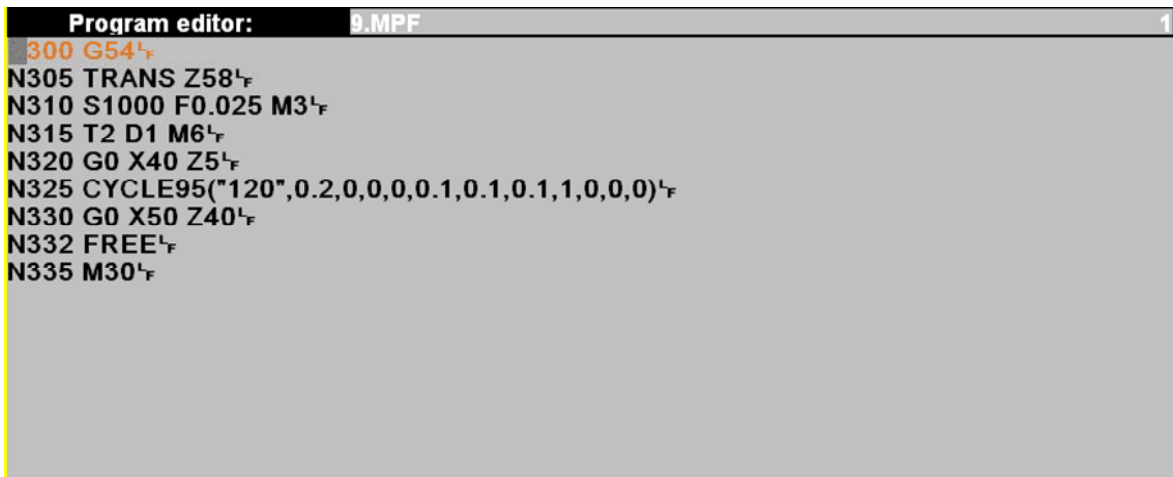

Fig.6.21: Shows the program editor.
32. Click on "9" the main program file to open it in the "program editor" (see Fig.6.21) to recompile cycle 95 as has been discussed earlier.